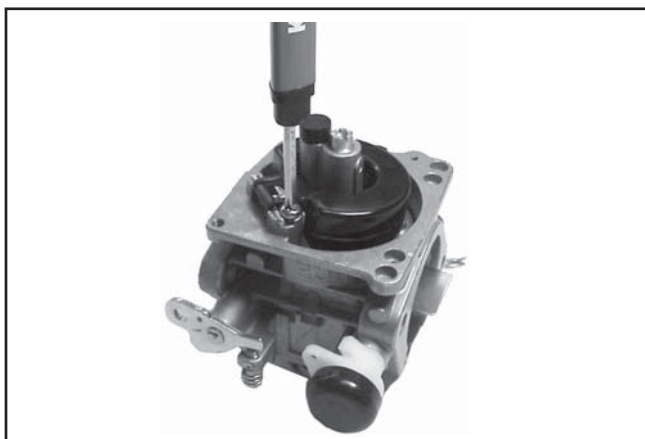

Figure 5-12. Installing Float Assembly.
5. Install the float and inlet needle down into the seat and carburetor body. Insert the new pivot pin through the float hinge and secure with the new retaining screw. See Figure 5-12.